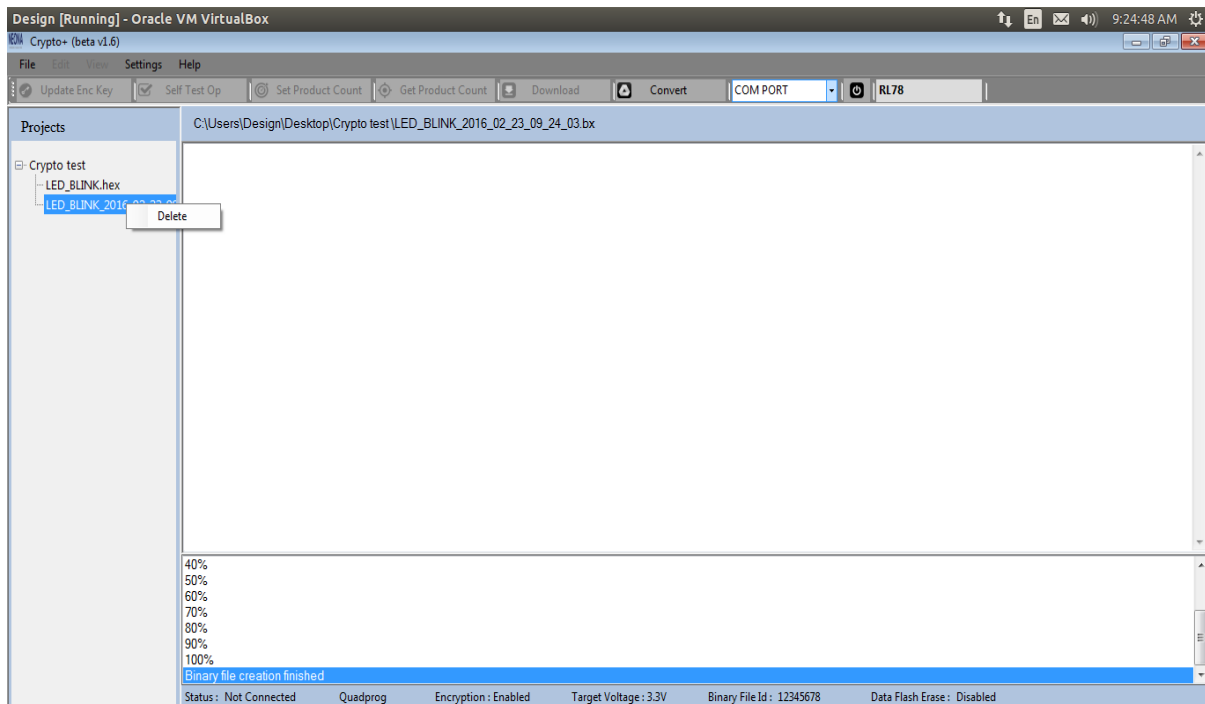

**Figure 2.50**
- **Delete:** The project can be deleted. A warning window will appear as shown in figure 2.50. If you want to proceed then click **Yes**. After deleting the project a message **‘Deleted Project Successfully’** will appear in the text view.